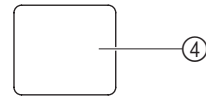

Fig. 3
- ③ **Indicator (Fig. 3)**
- ④ **Remote Control Signal Receiver**
- ⑤ **OPERATION Indicator Lamp (red)**
- ⑥ **TIMER Indicator Lamp (green)**
- ⑦ **SUPER QUIET Indicator Lamp (orange)**